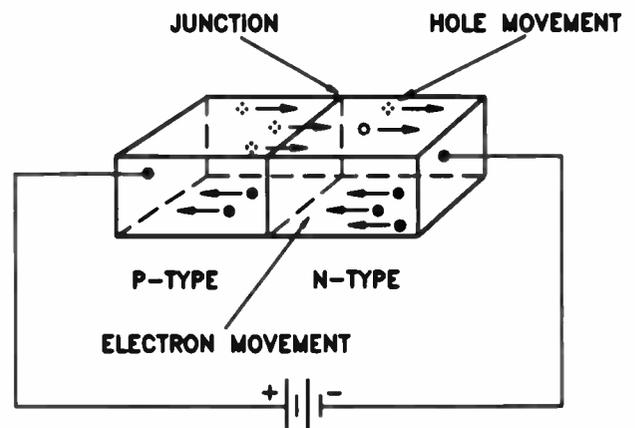

Figure 10. A forward-biased junction.
**Forward Bias.** If the positive battery terminal connects to the p-type material, and the negative terminal connects to the n-type material, as shown in Fig.10, we say that the diode is forward-biased. When the battery is connected with this polarity, a current can flow through the junction.